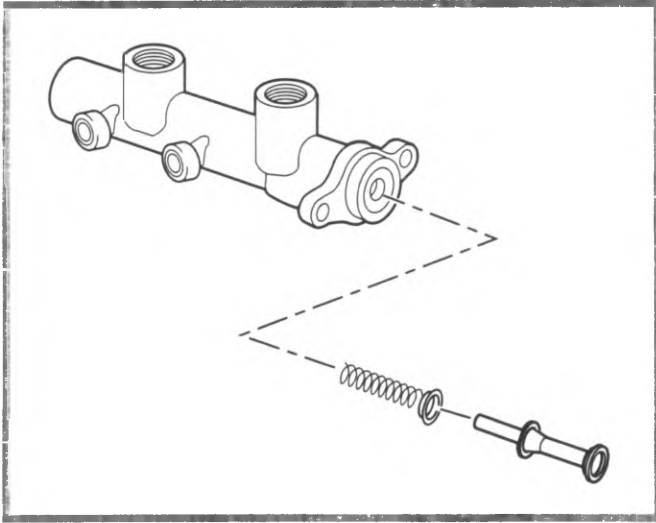

Figure 4-10, Remove Secondary Piston
8. Remove the secondary piston from the master cylinder body (figure 4-10). Plug the rear port, and apply a small amount of air pressure to the front port.